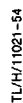

FIGURE 11. Timing Diagram for Auto A/D Conversion ADC0851/ADC0858
The timing diagram for "Auto A/D Conversion" mode is shown in Figure 11. The input word is loaded starting at the first rising edge of the CLK after \overline{CS} goes low. The first four bits configure the device for the "Auto A/D Conversion" mode while the 12-bit channel address assigns the configuration of each channel pair. If \overline{CS} remains low after C0 is loaded then any subsequent input data is ignored. Taking \overline{CS} high after the input word is loaded initiates the start of A/D conversion. A/D conversion starts one to two OSC clock periods after \overline{CS} goes high. The EOC output goes low to signal the start of an A/D conversion. The conversion time may range from 17 μ s to 74 μ s depending on how
Keeping \overline{CS} low after I0 is transmitted causes the output to be TRI-STATE. Once the output data is transmitted, \overline{CS} may go high to initiate the start of the next A/D conversion. The subsequent A/D conversion starts on the next channel pair that is configured as per the initially loaded input word (Figure 11). Any data on the data input (DI) line is ignored. Note that if the duration for which \overline{CS} is high is less than seventeen OSC clock periods then the conversion process would be interrupted and the device would look for the mode address at the falling edge of \overline{CS} so that a new mode of operation can be configured.